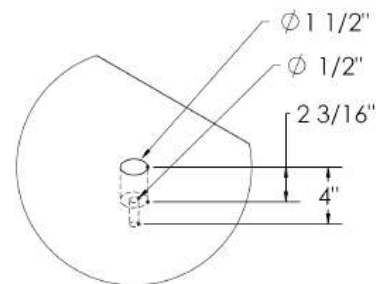

Figure 4
2. Use a 1-  $\frac{1}{2}$ " diameter concrete core drill to drill out the anchor holes to a depth of 2-  $\frac{3}{16}$ " as shown in figure 4. Clean all of the debris from the holes. Check to see if the bottom of each hole is in solid concrete. The anchors will only hold if the surrounding concrete is solid. The top of the anchor should be  $\frac{1}{4}$ " below the deck surface. The anchors can be installed deeper, if necessary, to mount sufficiently solid concrete.
4. Screw the Leveler Pad into the base assembly as shown in figure 4.